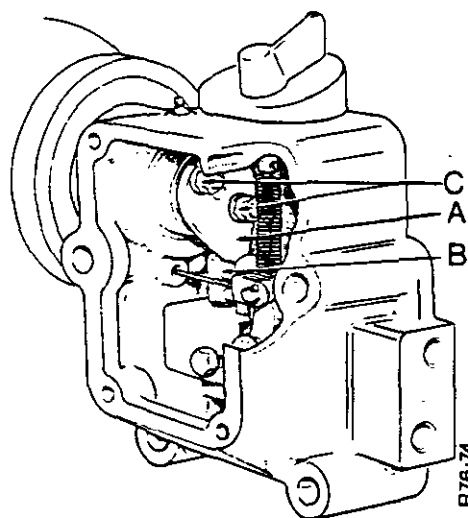

FIGURE 175. RAMSHAFT CAM SETTING
2. Remove the cover from the ramshaft bracket on the right-hand side (see Figure 175).